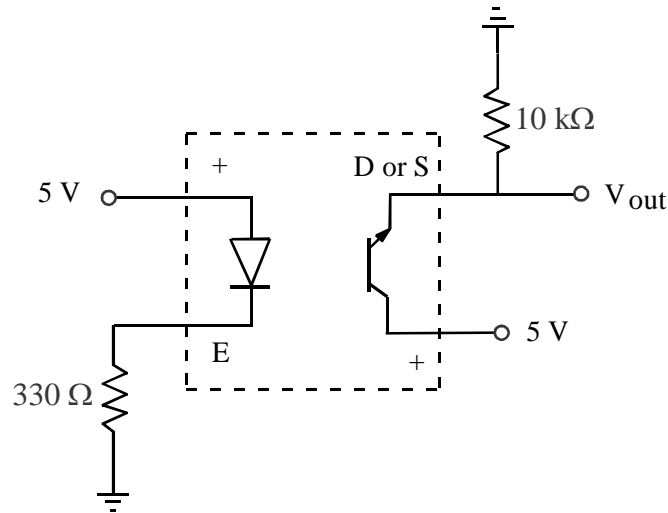

Figure 5.6 Photo-interrupter
- (5) Examine the photo-interrupter and look at its specifications. Build the circuit shown in Figure 5.6, using the resistors indicated. Note that a single 5V source can be used to provide both voltage signals, and the ground for the input and output circuits must be connected to be common.